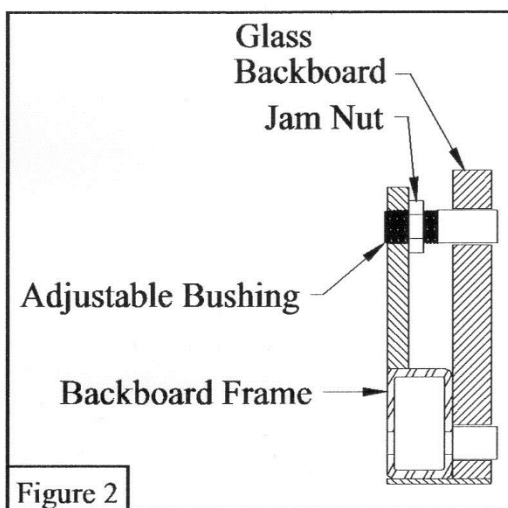

Figure 2
2. Loosen the Jam Nuts on the Adjustable Bushings located at the upper two rim mounting locations. See Figure 2.